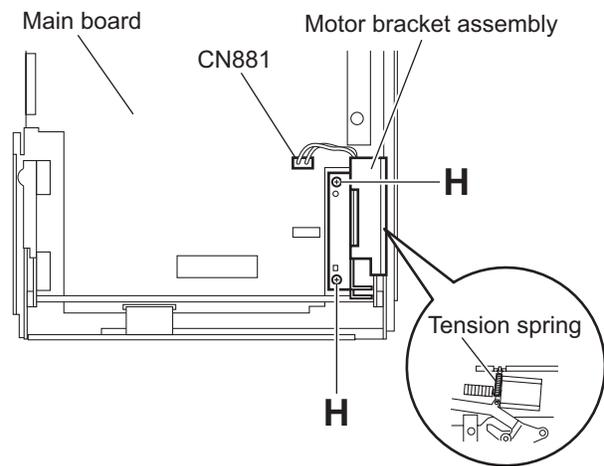

Fig.11
3.1.7 Removing the loading unit assembly (See Fig.11)